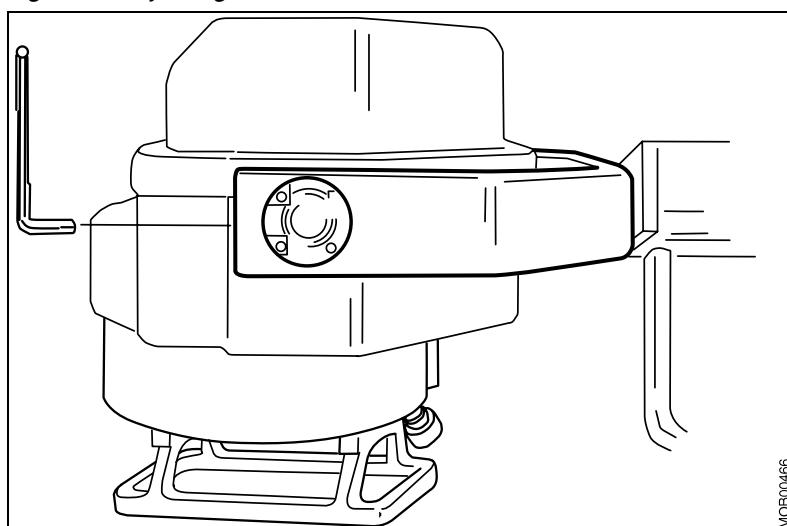

Fig. 50: Adjust tube rot
- Set the friction on both sides of the fork to be tighter or looser. (Fig. 50 / p. 58)